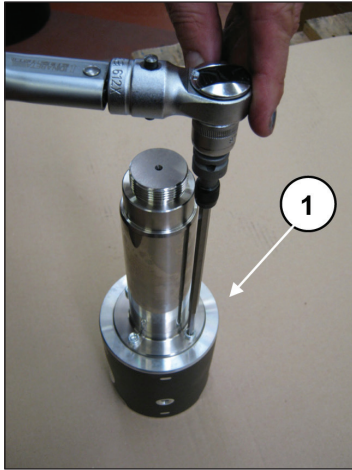

Fig. 38
To separate the rod from the piston guide, unscrew the round head M6 screws with a special wrench (pos. ①, Fig. 38).